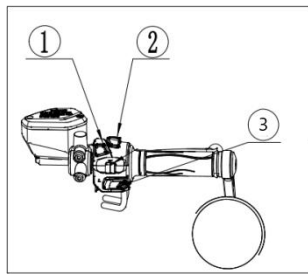

Fig7 Right switch combination
4.4 Right switch combination (Fig 7)